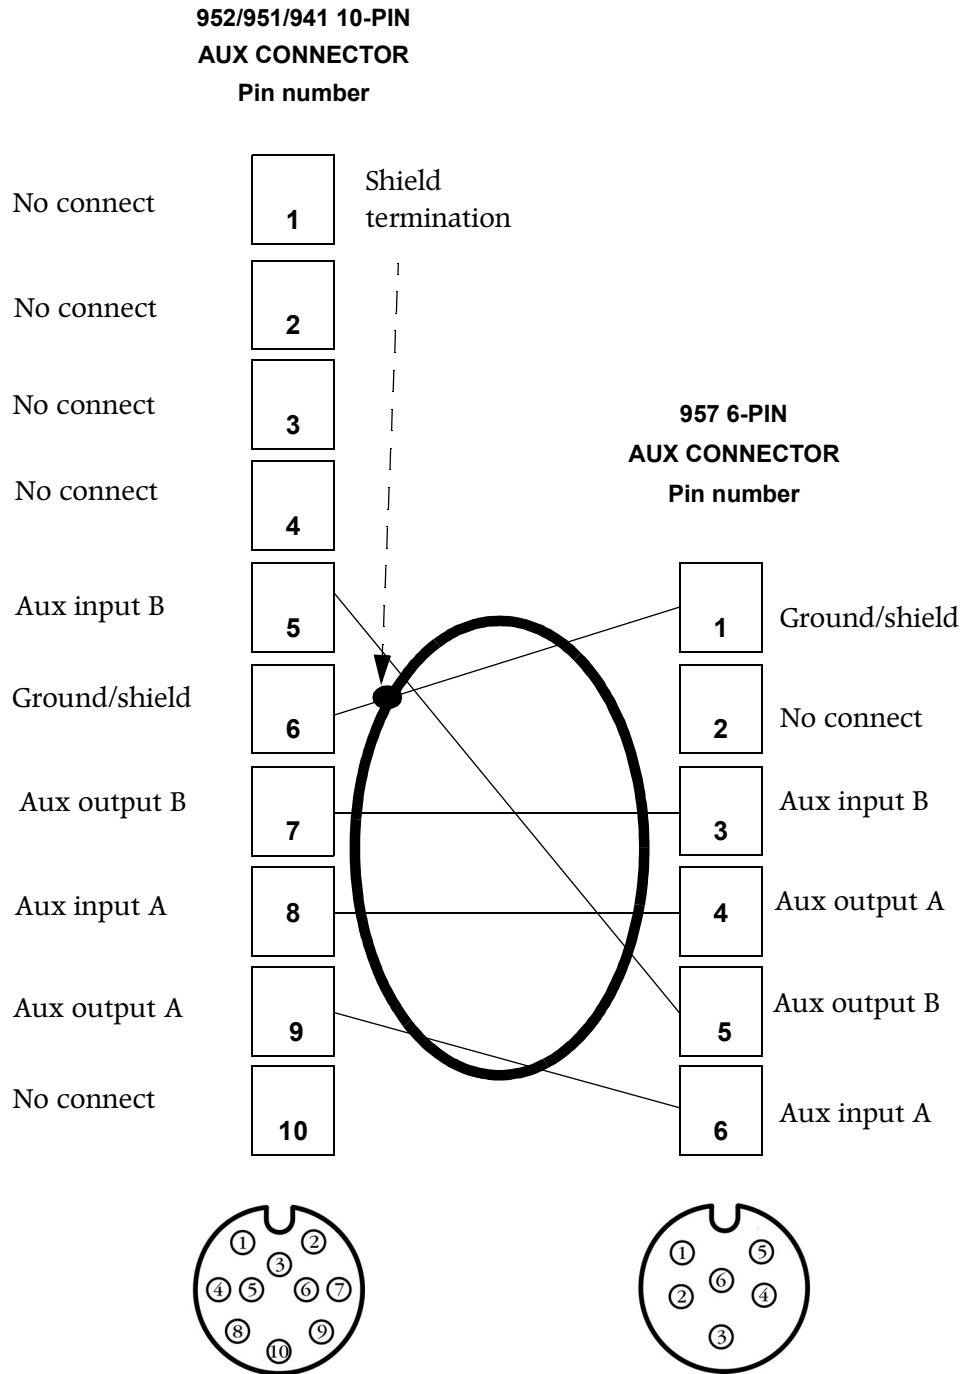

Figure 18: 952/951/941 and 957 aux ports' interface diagram (wiring side view, solder cup)
- For wiring a 957 to a 952/951/941, see Figure 18 on page 52 and Table 9 on page 53.